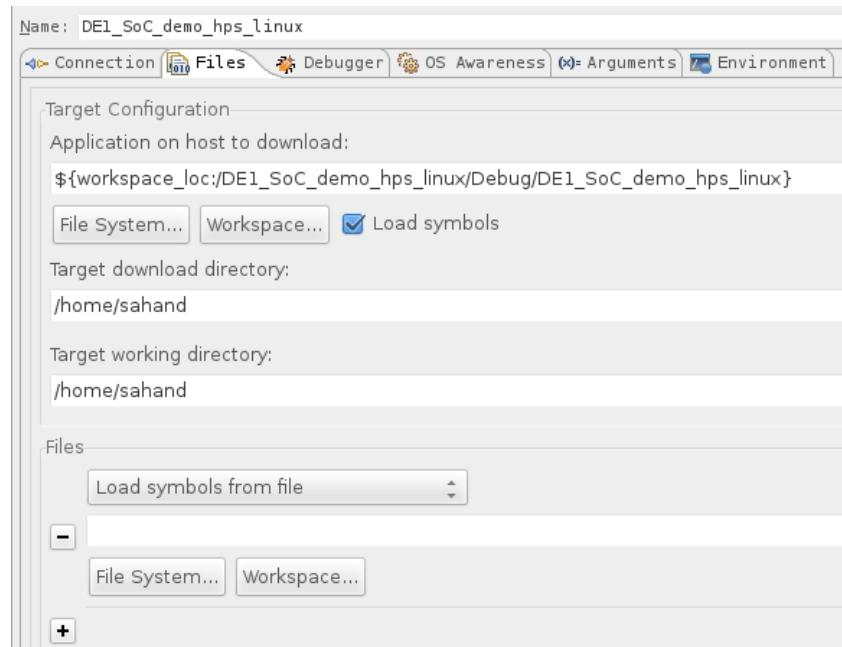

Figure 13-16. Debug Configuration "Files" Tab
- c. Set the “Target working directory” to your user directory. In my case it is “/home/sahand”. You should have something similar to Figure 13-16.